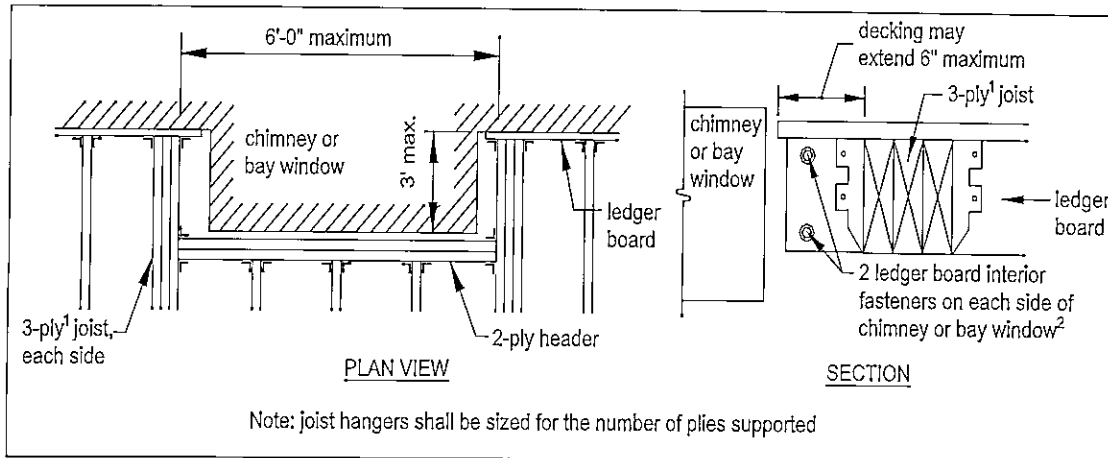

FIGURE 21: REQUIREMENTS FOR FRAMING AT CHIMNEY OR BAY WINDOW
¹ Additional interior fasteners are required at chimney or bay window; see FIGURE 21.
All framing at a chimney or bay shall be constructed in accordance with FIGURE 21 and the requirements below.
- Joist hangers shall be specifically designed to accommodate the number of members identified in FIGURE 21.